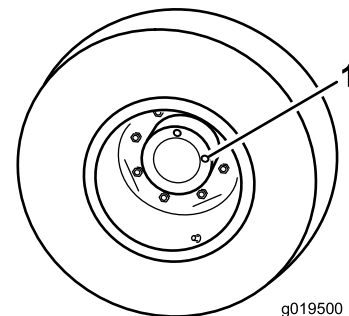

Figure 58
1. With machine on level surface, position the wheel so 1 check plug is at the 12 o'clock position and the other is at 3 o'clock position (Figure 58).
1. Check/drain plug (2)
2. Remove the plug at the 3 o'clock position (Figure 58).